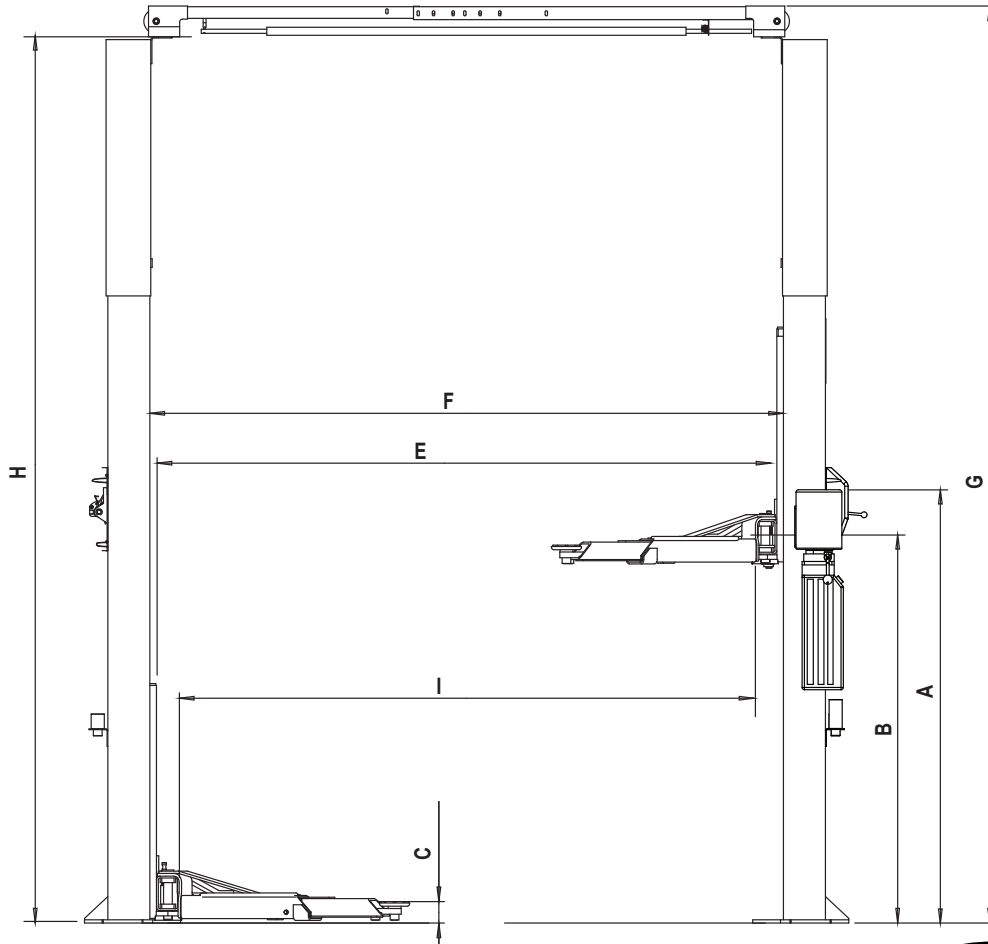
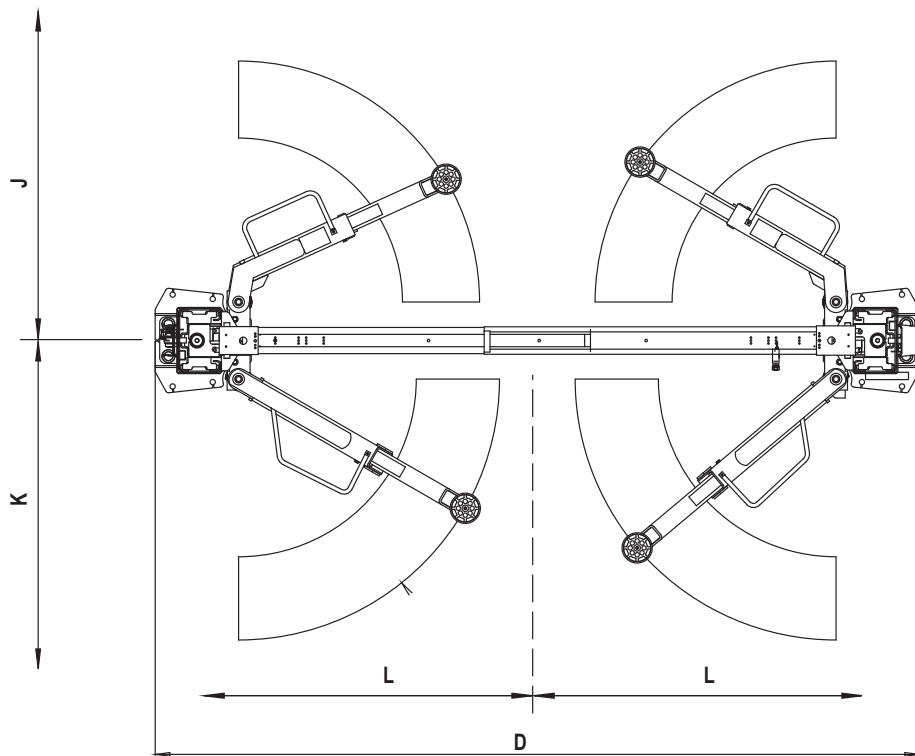

Fig. 1a
Fig. 1b
- Lift Location:** Use architects plan when available to locate lift. Fig. 1a & Fig. 1b shows dimensions of a typical bay layout.